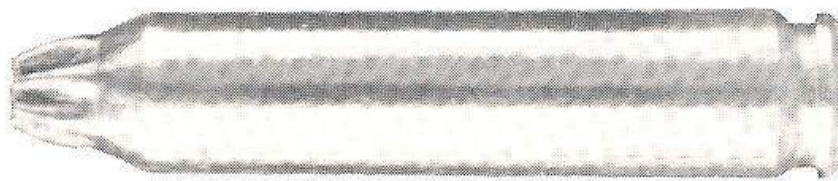

Fig. 7
C. Propulsive cartridge for grenade launching (fig. 7)